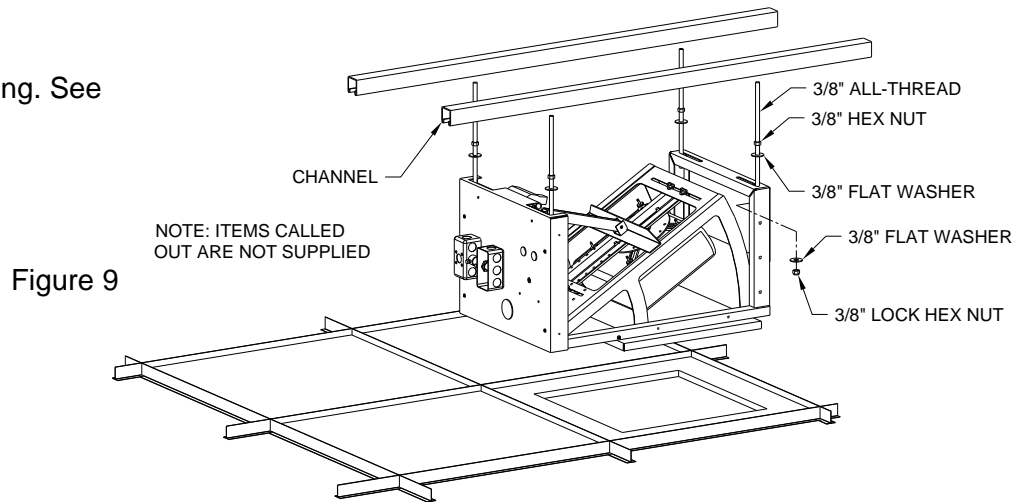

Figure 9
- Attach Da-Lift to structural ceiling. See Figure 9.